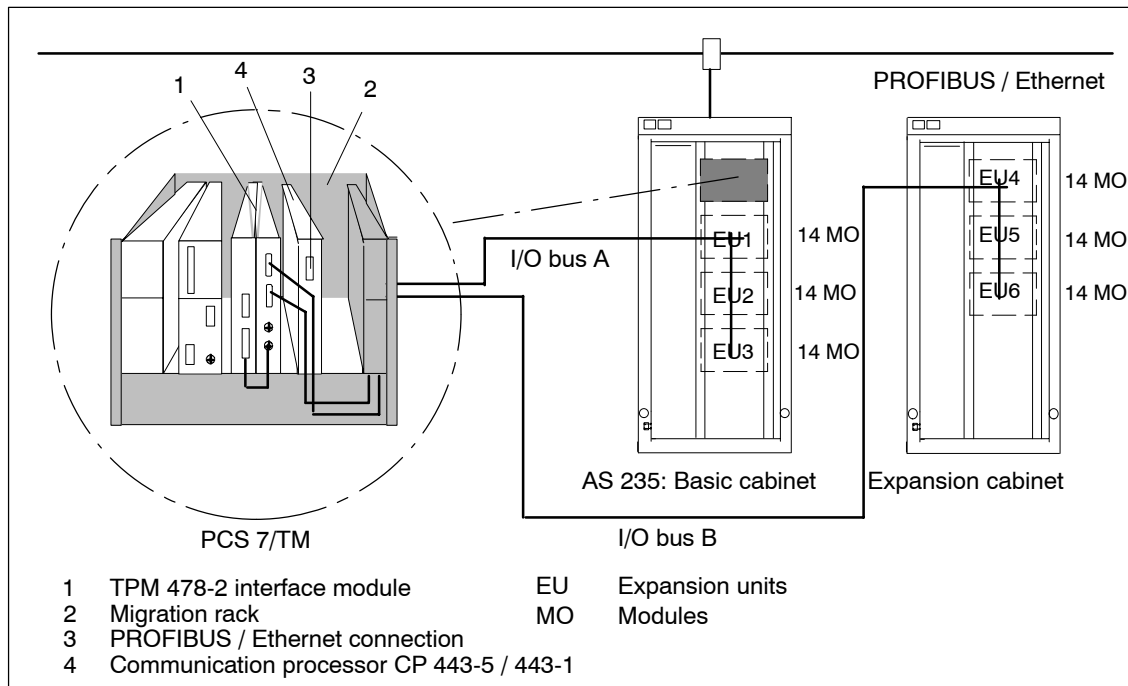

Figure 5-5 Migration rack
Special measures are required when routing cables from the TPM 478-2 to I/O bus A and B. These measures are already taken care of in the design of the migration rack (see Figure 5-5). You can allocate all five I/O modules in migration rack II to I/O bus A, or you can distribute them on bus A and B (e.g. three on I/O bus A and two on I/O bus B). In addition, you can interconnect up to three expansion units (EU) of the basic cabinet or four ES 100 K expansion systems to I/O bus A. To I/O bus B you can connect up to four expansion units of an expansion cabinet or up to four ES 100 K (all fully assembled). Mixed system configurations per I/O bus are permitted with up to 4 EU/ES 100 K (e.g. 3 EU + 1 ES 100 K).
The migration rack is a preassembled module rack equipped with an integrated SIMATIC S7/M7-400 backplane bus, and with dimensions according to the installation system ES 902 used in TELEPERM M cabinet systems. It holds the configuration described in Figure 5-5 and is equipped with ready-to-use cables and integrated fusing for L+ 24 V/16 A. I/O bus A and B can be connected at the rear of the migration rack with the help of the two ribbon cable connectors.
- 3 EUs of an AS 230-/AS 235 basic cabinet on bus A and 3 EU of an AS 230-/AS 235 expansion cabinet on bus B (see Figure 5-5).